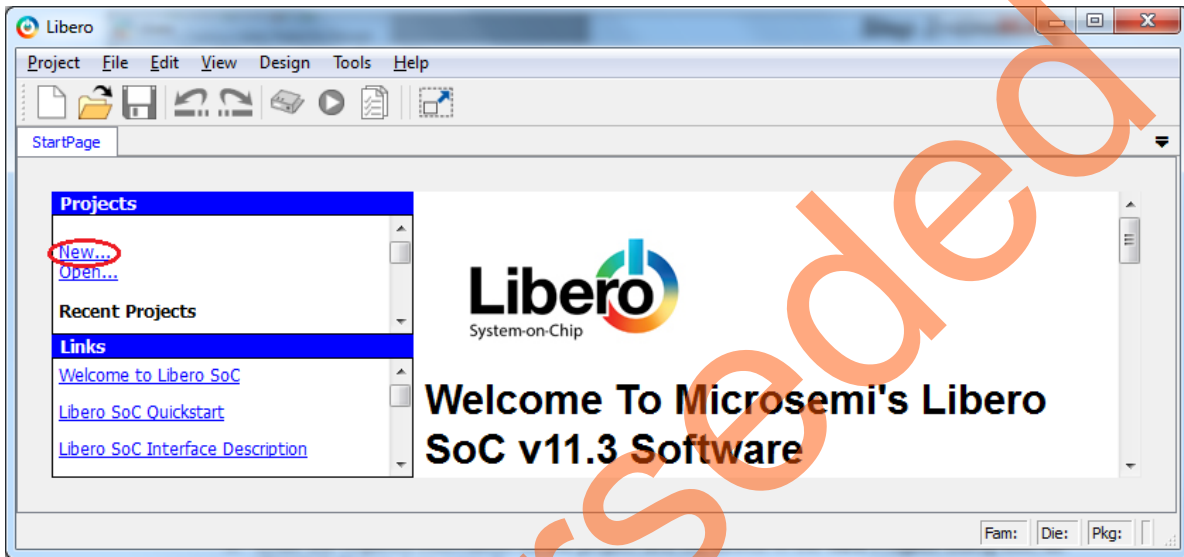

Figure 2 • Libero SoC Project Manager
2. Create a new project by selecting **New** on the **Start Page** tab (highlighted in Figure 2), or by clicking **Project > New Project** from the Libero SoC menu.